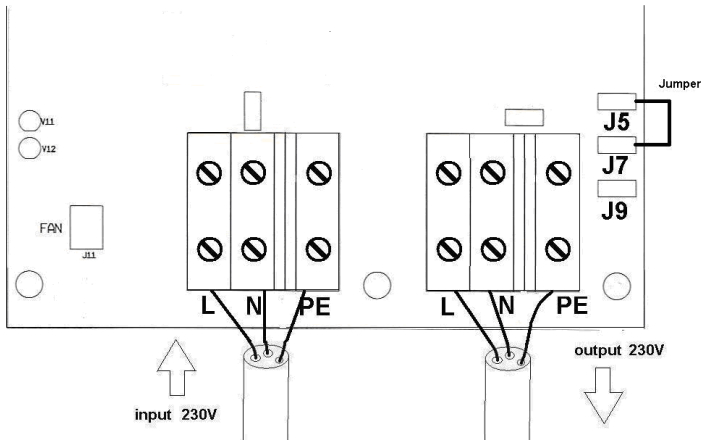

Figure 3: Output neutral grounding
2.3 Output neutral grounding (fig. 3)
A Residual Current Device (RCD) or Ground Fault Circuit Interrupter (GFCI) must be installed in the output cable of the isolation transformer. For this RCD to operate correctly, the output neutral must be connected to ground (= all the metal parts in the boat). This is achieved by placing a jumper on male push-on connectors J5, J7 (see fig. 3), and by grounding the enclosure of the isolation transformer.